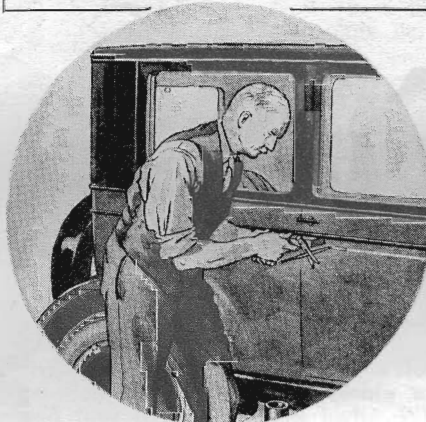

Fig. 3. Amateur auto painters will find this ingenious homemade device a great help in adding a stripe to the finished paint job
C. A. Tubby, of Elizabeth, N. J., wins this month's prize of \$10 with his suggestion of a motor car painting device (Fig. 3). POPULAR SCIENCE MONTHLY awards \$10 each month, in addition to regular space rates, for the best idea for motorists. Other published contributions will be paid for at usual rates.
**A** SIMPLE aid for striping a car can be constructed from a block of wood, a wood screw and a clothespin. Fig. 3 shows the device in use. The pin is screwed to the block of wood. By turning the pin and moving the brush in the fork of the pin the location of the stripe with reference to the bead on the panel can be adjusted. The block is slid along the panel with the bead as guide.